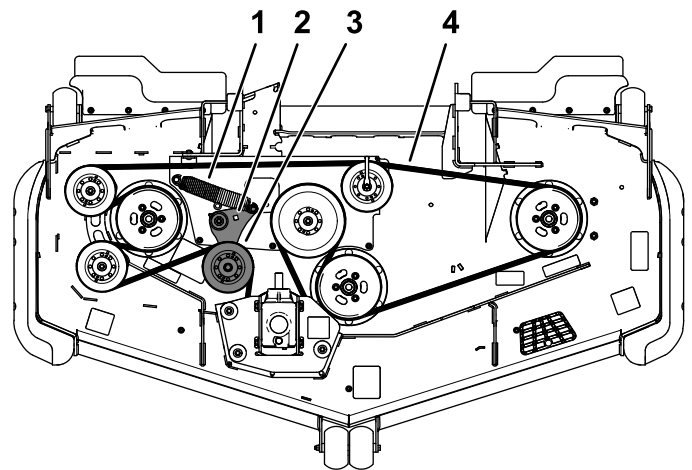

Figure 55
- Use a ratchet in the square hole in the idler arm to remove tension on the idler spring (Figure 55).
- Install the new belt around the mower pulleys (Figure 55).
square hole, install the belt around the idler pulley (Figure 55).